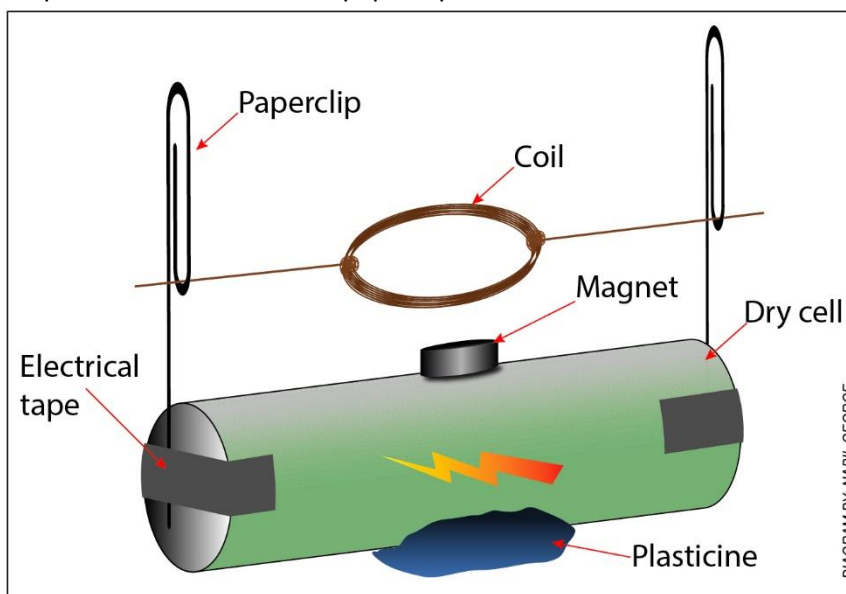

Figure 2 – the setup of the motor
5. Stick the button magnet using a lump of plasticine on the dry cell as shown in figure 2.
- Figure 2 Author Nabil George for ASELL